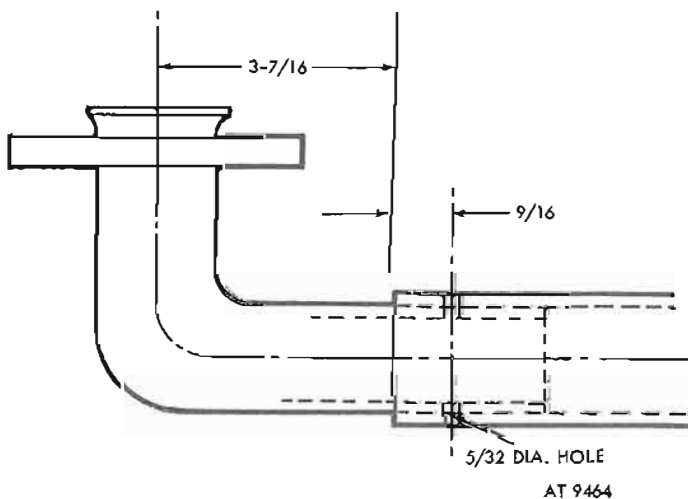

Figure 18-27. Positioning oil pan heater pipe on elbow.
(6) Insert cotter pin (10) through hole, and bend ends of pin over.
(7) Attach duct (9) to shrouds (5) and (6), using two screws (7) and lockwashers (8).
(8) Position shroud assembly on oil pan with duct wrapping around the rear of oil pan; using the oil pan nuts removed in paragraph 18-7c, attach to oil pan.
(9) Attach strap (20) to bottom of shrouds, using two screws (7) and lockwashers (8).
(10) Slide flange (4) over elbow (1) so that recess in flange mates with lip on elbow.
(11) Slide oil pan heater pipe (19) over elbow; locate and drill one $\frac{5}{32}$ -inch hole through pipe and elbow as indicated on figure 18-27.
(12) Insert cotter pin (10) through hole, and bend ends of pin over.
(13) Slide open end of pipe over the remaining